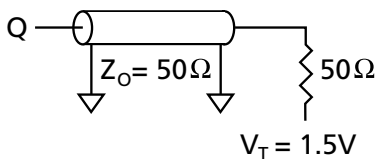
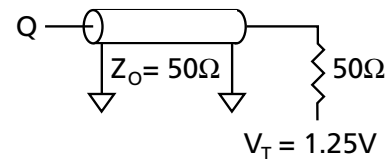

Figure 1
Figure 3
3. Test conditions as specified with output loading as shown in Figure 1 for 3.3V I/O ($V_{DDQ} = +3.3\text{V} \pm 0.165\text{V}$) and Figure 3 for 2.5V I/O ($V_{DDQ} = +2.5\text{V} + 0.4\text{V} / -0.125\text{V}$).
Output load	See Figures 1 and 2
Output load	See Figures 3 and 4